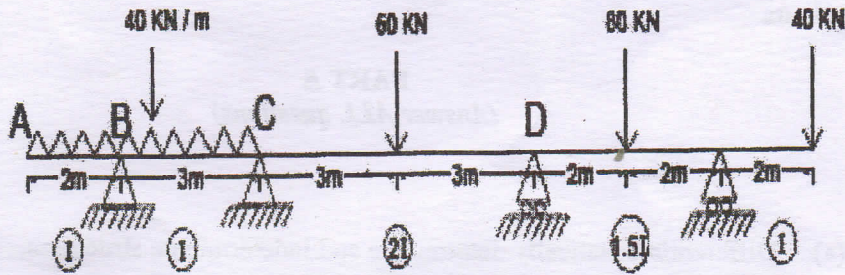

Fig.2
V. Analyse the continuous beam shown in figure 2 and determine the moment at all supports.